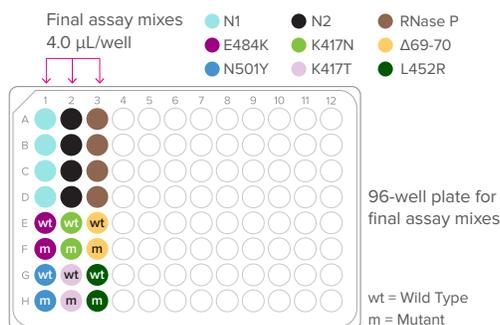

Figure 3. Final assay plate (per-well transfer volume)
NOTE If you are preparing assay mixes for 1 IFC, you can combine 1 µL of 4X Assay Loading Reagent with 3 µL of each assay directly in a new 96-well plate in the order shown in Figure 3 on page 4 and skip to Step 4 of this section.
- d Transfer the final assay mixes to a new 96-well plate in the order shown in Figure 3.
- 3 In a DNA/template-free hood, use an 8-channel pipette to transfer 4.0 μL of each final assay mix into the respective wells in a new 96-well plate as shown in Figure 3.